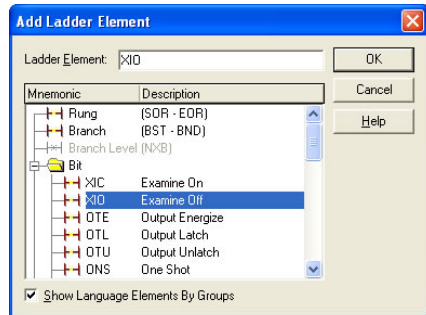

Figure 104: Adding an XIO Element
- Select the "XIO" element in the Bit folder. Refer to Figure 104.